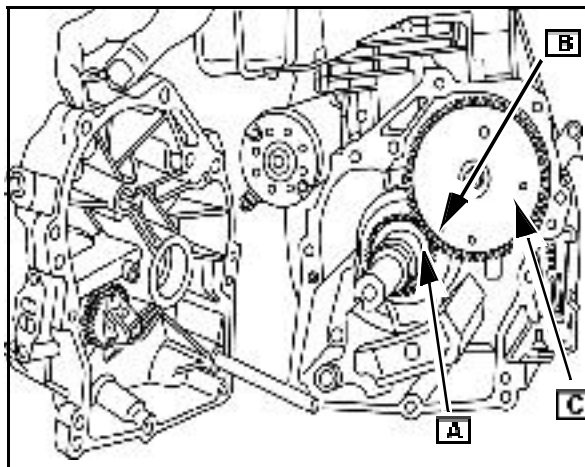

Fig. 11
2. Turn crankshaft to align timing mark on gear (A) with timing mark on camshaft (B).
3. Remove camshaft ([C] Fig. 11).